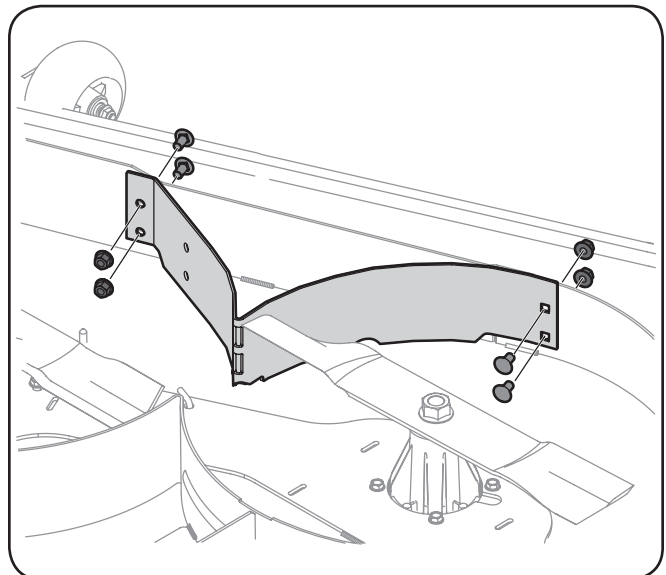

Figure 1-4
1. Install the center baffle using four 3/4" carriage bolts (and four flange nuts) to secure it. See Figure 1-4.